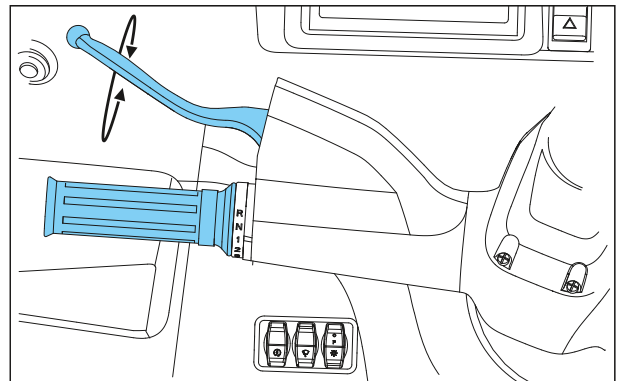

Fig. 2.90
- Check the free play by rotating the tube complete gearshift and checking if the position of the neutral 'N' mark on indicator gearshift coincides with the mark on the handlebar. (Fig. 2.90)